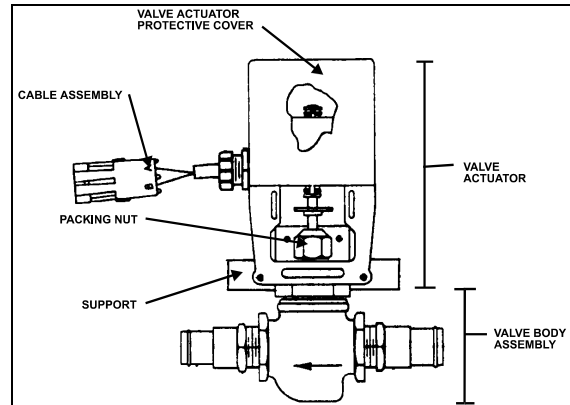

FIGURE 42: MAIN HOT WATER SOLENOID VALVE 22054
3. Disconnect cables and the fresh air sensor. Remove the main hot water solenoid valve actuator (Fig. 42) from the line by removing connectors at pipe outlets and removing screws on the support.